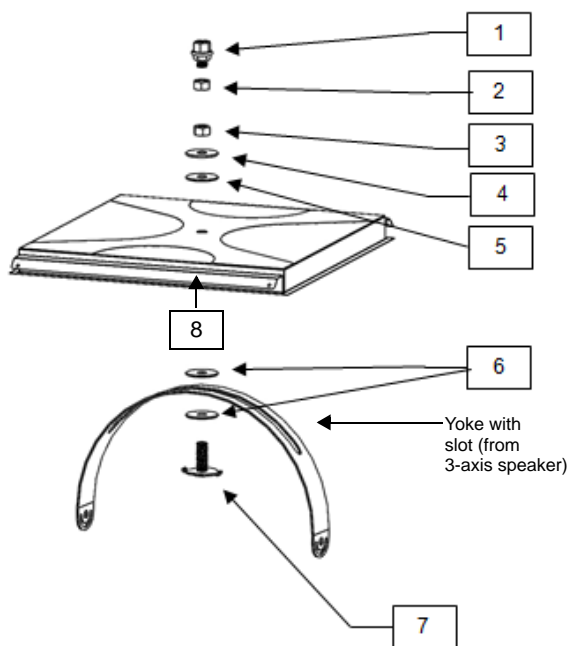
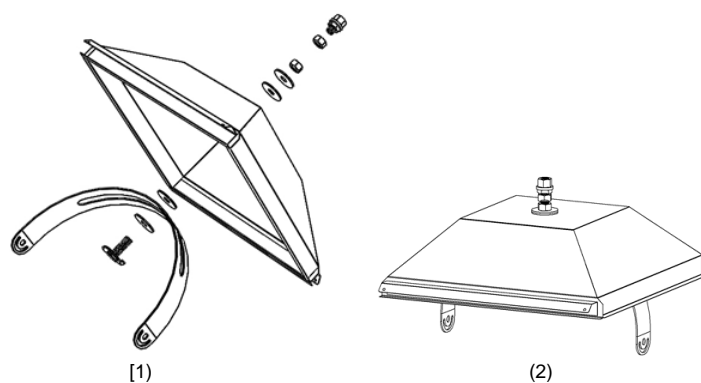

Figure 2-1 Flat-Mount Assembly
Figure 2-2 Recessed Assembly (1) and Recessed Assembly Fastened Together (2)
Figure 2-1 and Figure 2-2 show these parts.
Figure 2-1 and Figure 2-2 show the parts in the rigging kits. The SLS multi-axis speakers ship with the yoke installed, but the speaker body is not shown in the figures (for clarity).
Refer to Figure 2-1 and Figure 2-2. To prepare the speakers:
1. Place a neoprene washer (Figure 2-1, item 6) onto the hollow all-thread bolt, and push to the bottom of the shaft.
3. Place the second neoprene washer (Figure 2-1, item 6) onto the hollow all-thread assembly, and push down onto the yoke so that the assembly is held loosely to the yoke.
For a recessed tile mount installation, connect the speaker wires and safety cable to the speaker. For a flat tile mount installation, you may be able to do this after securing the speaker in the mount. (Refer to Figure 2-1 and Figure 2-2.)
The input barrier strip accepts 16- to 12-gauge wire, with either #6 spade lugs or bare wire. Always use industry-standard practices for selecting wire gauge, based on the product power rating and cable length. Note that the barrier strip is marked with a plus (+) or red indicator to show the polarity. Per IEC standard, a positive voltage on the positive marked input results in the low-frequency drivers moving outward. Always tie down the cable to available hardware to minimize any buzzing or pullouts. We recommend running the audio wires through the M20 hollow bolt (item 7 in Figure 2-1).
The input barrier strip accepts 16- to 12- gauge wire, with either #6 spade lugs or bare wire. Always use industry-standard practices for selecting wire gauge, based on the product power rating and cable length. Note that the barrier strip is marked with a plus (+) or red indicator to show the polarity. Per IEC standard, a positive voltage on the positive marked input results in the low-frequency drivers moving outward. Always tie down the cable to available hardware to minimize any buzzing or pullouts. We recommend running the audio wires through the M20 hollow bolt (item 7 in Figure 2-1).